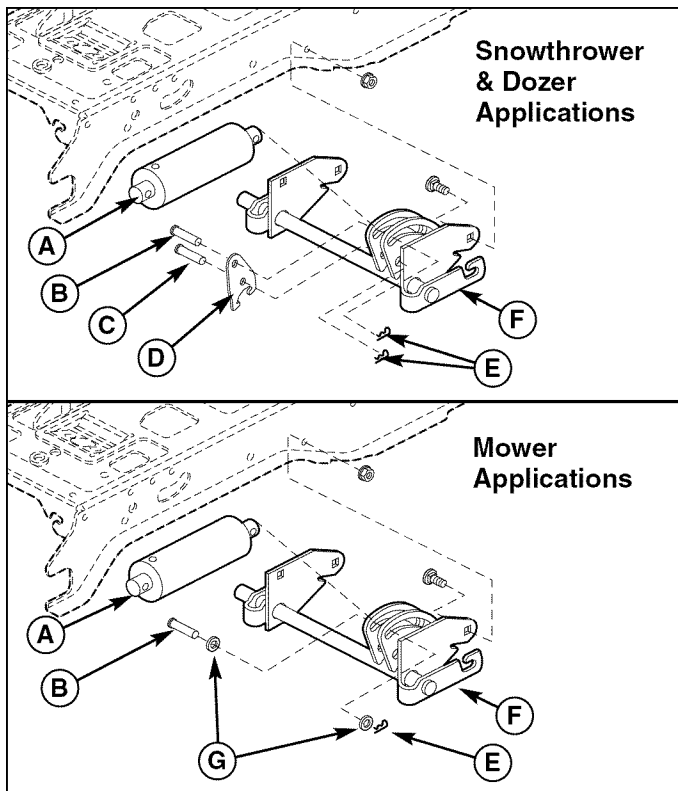

Figure 17. Lift Lock Plate - Hydraulic Lift Models
When using a snowthrower or dozer, the downward pressure lock plate (D, Figure 17) and an additional pin (C) is installed. These parts are included with the attachment. Note that the washers (G) are not used with the lock plate.